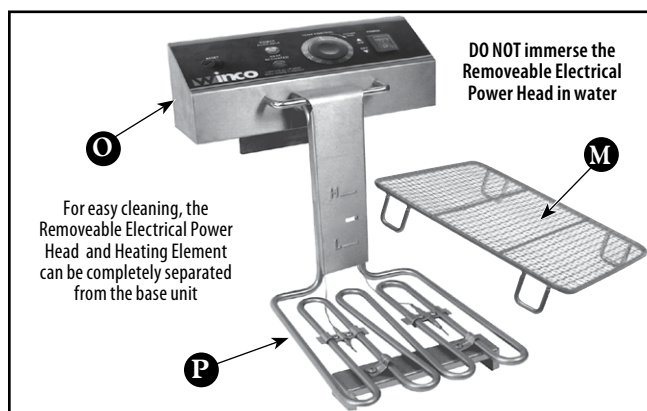

Figure 7. Preparation for Cleaning the Unit
4. Remove the Electrical Power Head (O) and Wire Mesh Heating Element Cover (M) . (Figure 7)